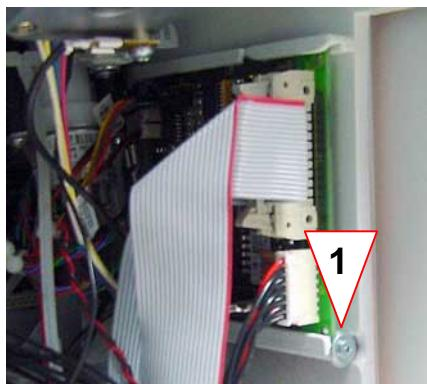

Fig. 3-65 Pump board
3. Remove the mounting screw of the Pump board (see Fig. 3-65, 1).